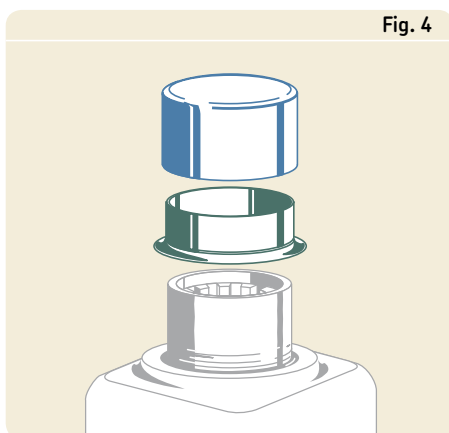

Fig. 4
- 7 If the flange should be removed after installation, cut it from the outside diameter into the radius in one location. The flange end of the sleeve goes on the shaft first. Then, place the installation tool over the sleeve (→ fig. 4).